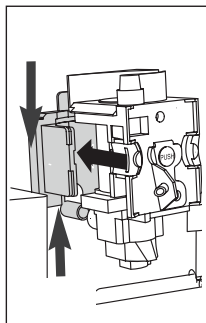

Fig. 42
- ▶ After cleaning, replace the brewing unit (A5) by sliding it onto the internal support and pin at the bottom, then push the PUSH symbol fully in until it clicks into place (Fig. 42).